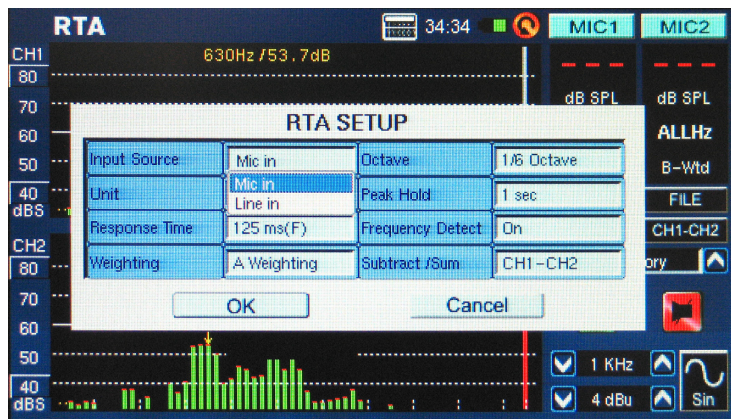

figure 18
1. Enter the SET menu on the RTA screen and change the input source to "Mic" (see figure 18).